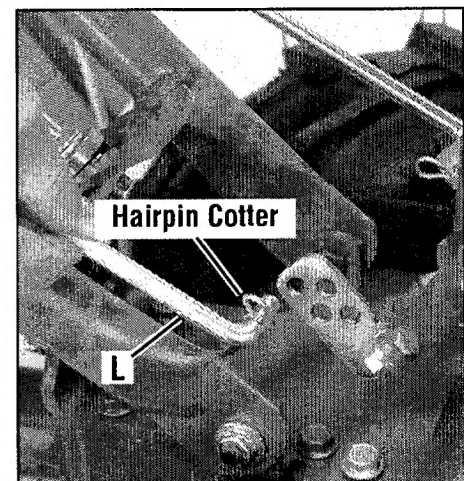

Figure 2-9: Install Forward Clutch rod.
3. Insert the tip of the lever into the hole in the pivot (J, Figure 2-9). Secure the lever with a hairpin cotter (K).
1. The upper end of the Forward Clutch rod is attached to the bottom of the handlebar control panel. Turn the rod (L, Figure 2-9) so that the small bend at its lower end points inward.
2. Insert a hairpin cotter down through the hole located closest to the bend (see Figure 2-9).